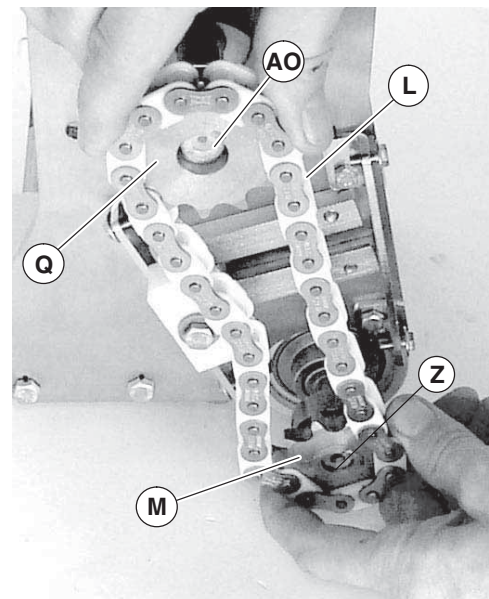

Figure 14
- Install timing chain (Figure 14, item L) over sprockets (M and Q). Install timing chain and sprockets on conveyor input shaft (Z) and gear reducer output shaft (AO). Do not tighten sprocket set screws.